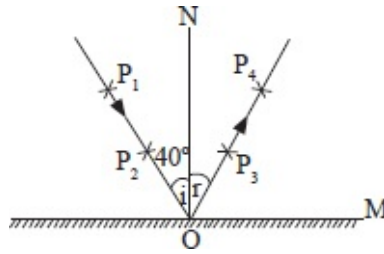

Fig. 8.23: Relationship between the angle of incidence and the angle of reflection.
- Fix two pins P_1 and P_2 on this line, see figure 8.23.